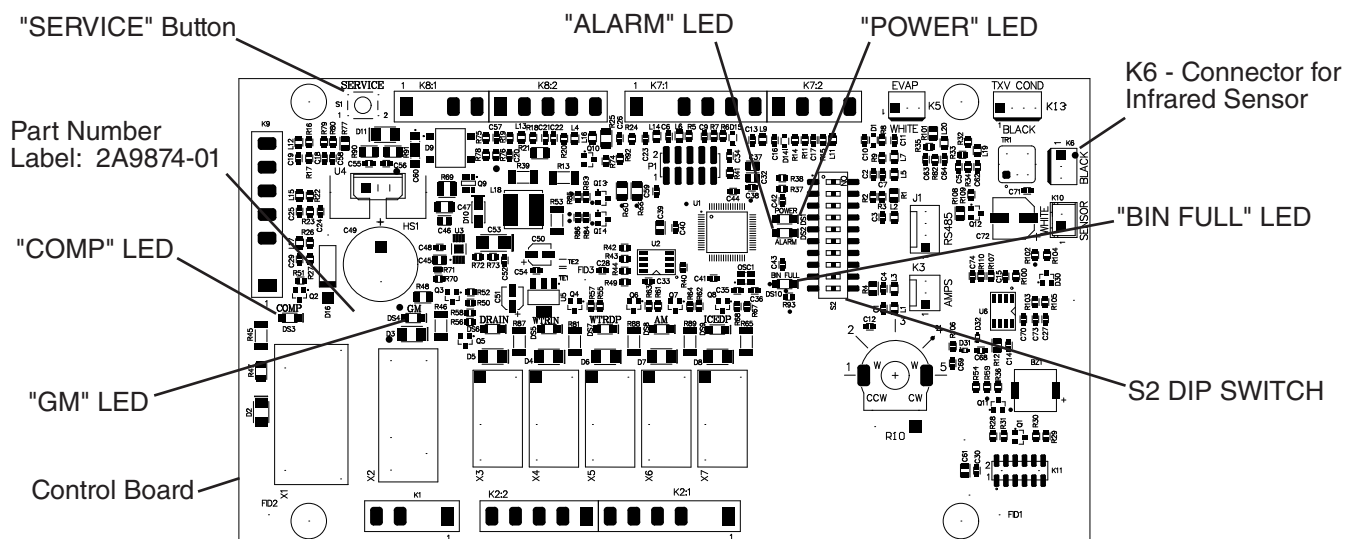

Fig. 13
- 6) Make sure the "GM" LED on the control board is on. See Fig. 13. There is a delay of at least 30 seconds before the "GM" LED turns on after power-up. After the "GM" LED turns on, press the "SERVICE" button on the control board to bypass the 5-minute compressor delay. **WARNING! Risk of electric shock. Care should be taken not to touch live terminals.** Confirm the "COMP" LED turns on.